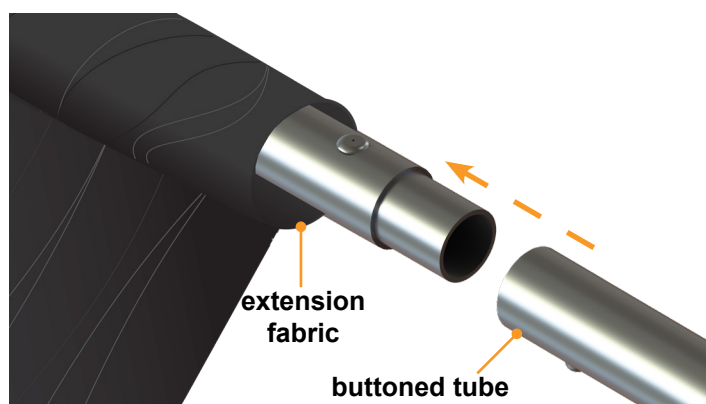

Fig.7
12. Reconnect the tube halves (Fig.7).